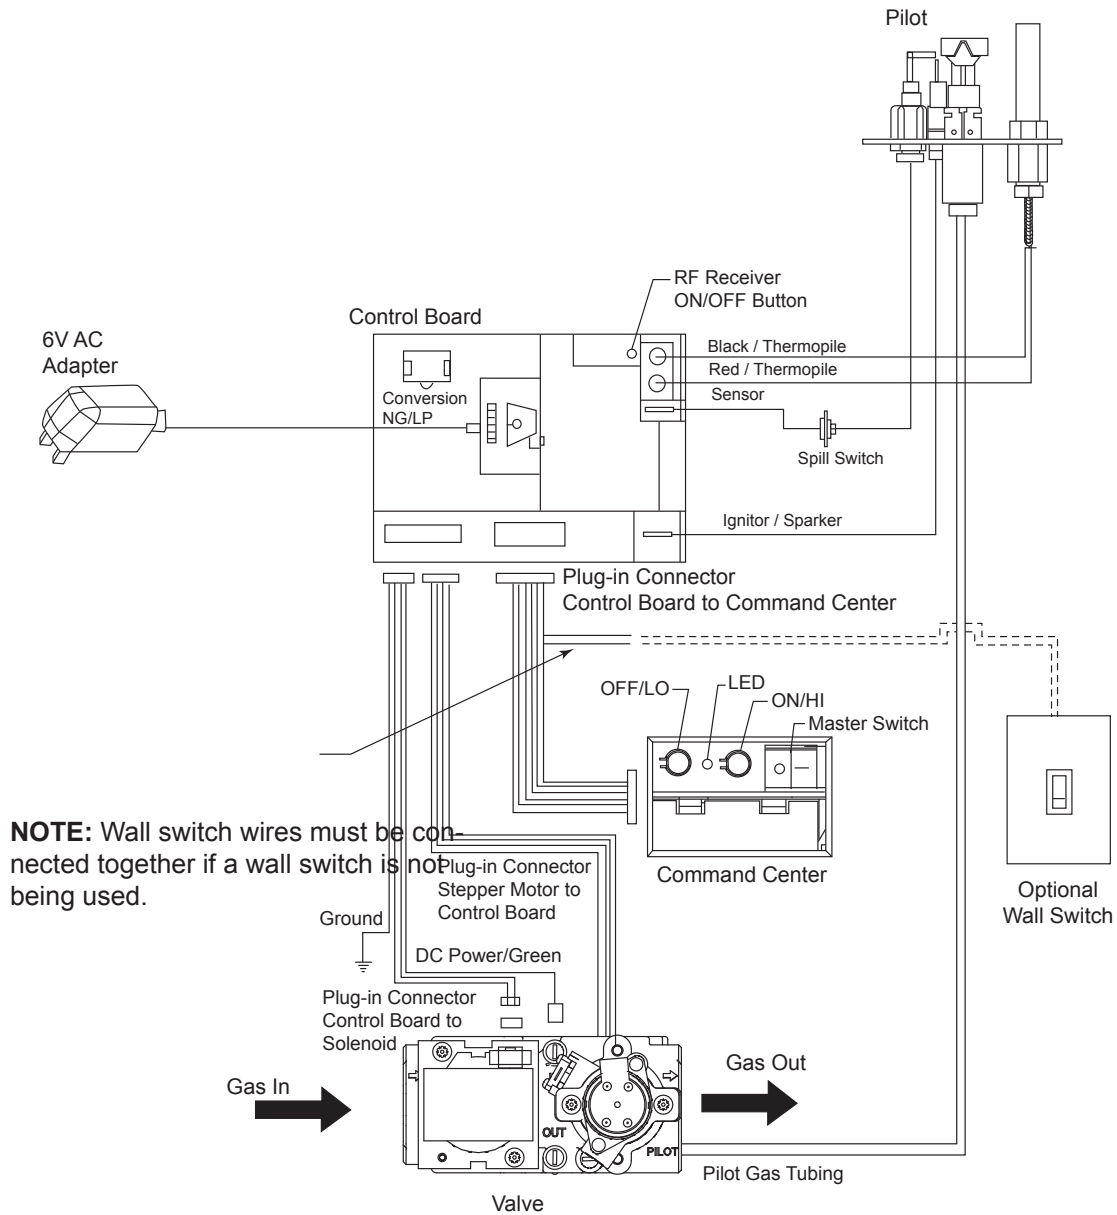

Figure 15 -
The wall switch wire connection is located off the 2 ft. wire harness from the control box to the command center. *Figure 15*. The connection is labeled "Wall Switch". Unplug the male and female connectors and connect the two (2) low voltage wires provided. Run wire to desired location on wall. Up to 50 ft. of 18 ga. wire may be used if necessary. Attach wires to wall switch. Mount the wall switch in to junction box and screw on cover.